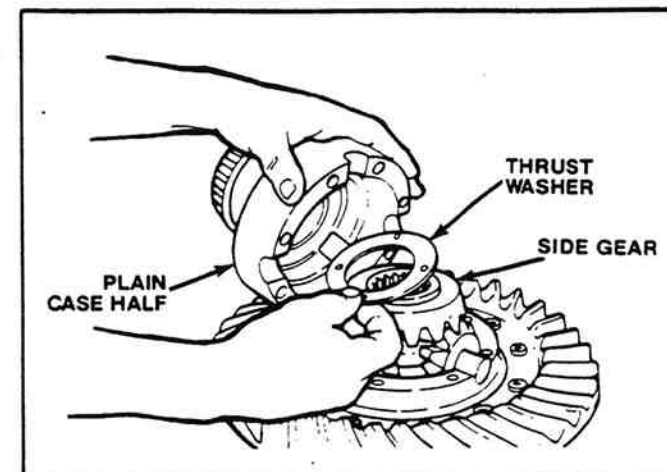

Figure 2-68. Installing Second Side Gear And Thrust Washer.
13. Install the second side gear and thrust washer over spider and differential pinions (Figure 2-68).
14. Put the plain half of the differential case over the flange half and gears. Rotate the plain half as needed to align the match marks (Figures 2-68 and 2-69).